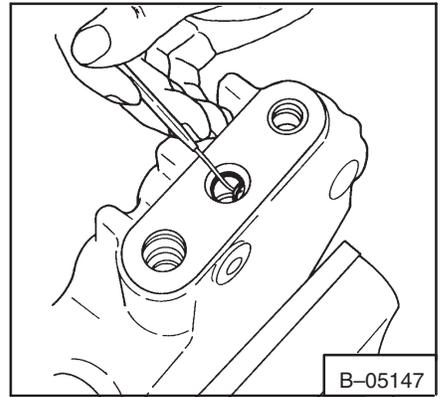

**Fig. 2-14** Removing Wiper Seal
8. Remove the wiper seals (Fig. 2-14) and the O-ring (Fig. 2-15), from the bores of the linkage end of the control valve.